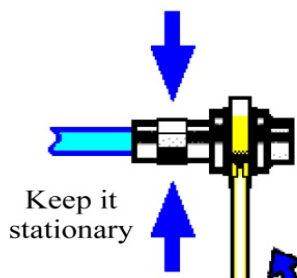

Fig.3.3 Finish the connection with a torque wrench
Step 3. As shown in Figure 3.3, tighten the connectors with a torque wrench to complete the connection. Pay attention that the torque wrench should not exceed the initial folding point. Use an auxiliary wrench to prevent the connector from rotating.